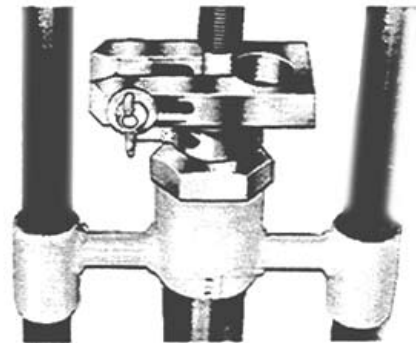

FIGURE 17
2. Open stopping machine gate valve **fully**. Advance stopper by rotating crank (or double handled ratchet) **counter-clockwise** until squared section on operating tube screw is exposed. See **Figure 17**.